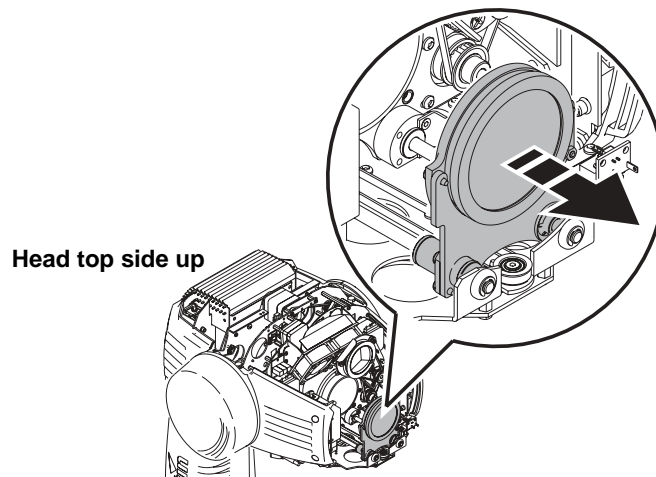

Figure 15: Moving the focus lens forward
4. Position the head top side up so that you have access through the top. Holding the focus lens by its base, slide it out to its limit at the front of the fixture as shown in Figure 15.